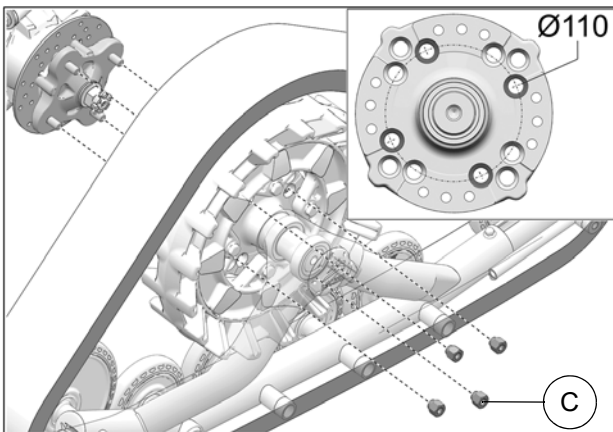

Fig. 11
10. Secure undercarriage to rear hub using the lug nuts (C) provided. Use bolt circle $\text{\O}110$ mm. See Fig. 11